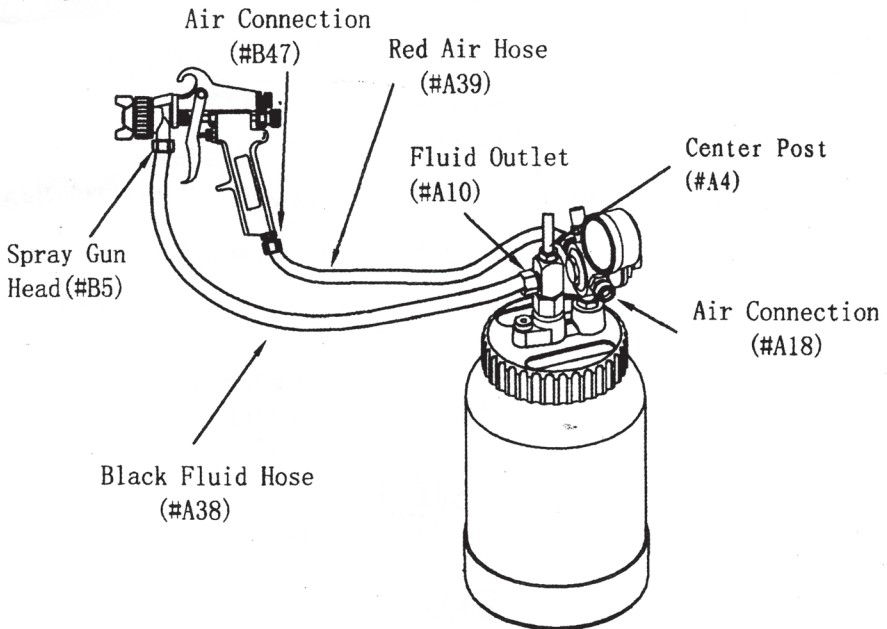

Figure 1 *Connecting the hoses*
Step 1: Connect the black fluid HOSE(#38) to the fluid OUTLET(#A10) on the COVER CENTERPOST(#A4) and secure using the hose wrench as shown in Figure 1.